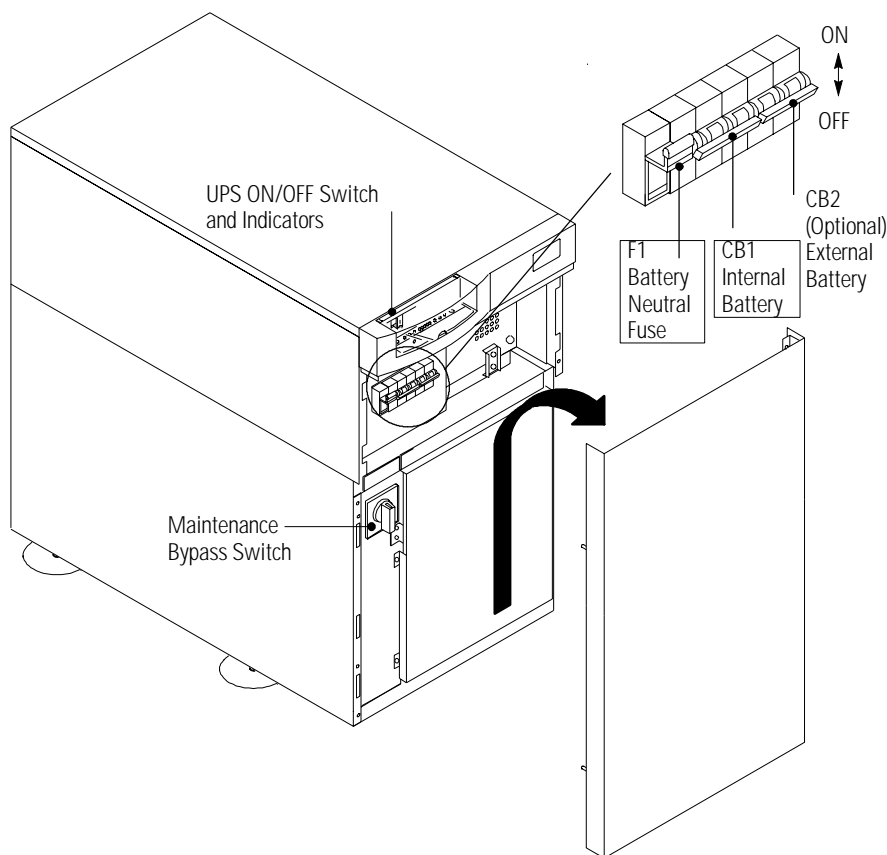

Figure 17. UPS Breakers and Switches (Front Panel Removed)
1. Remove the front panel. Lift from the bottom of the panel and then pull out (see Figure 17).